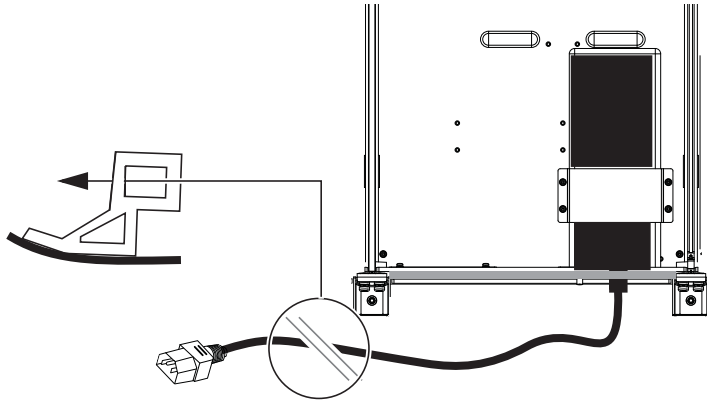

Figure 15. Feeding the cable through the Back Tie Plate and connecting it to the PSU (Ethernet switch not shown)
- 6 Feed the other end of the AC cables through the opening in each Back Tie Plate and run them through the upper (square) cable guide openings in the Rear Panel as shown in Figure 15.